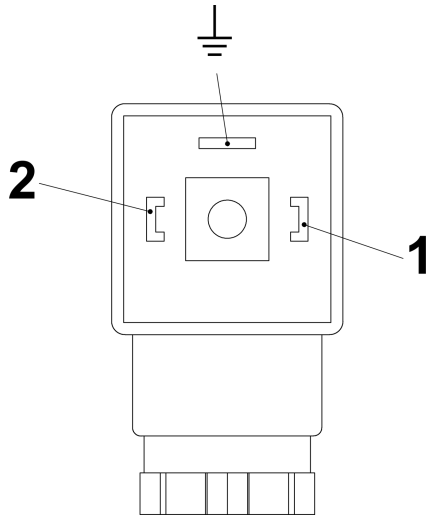
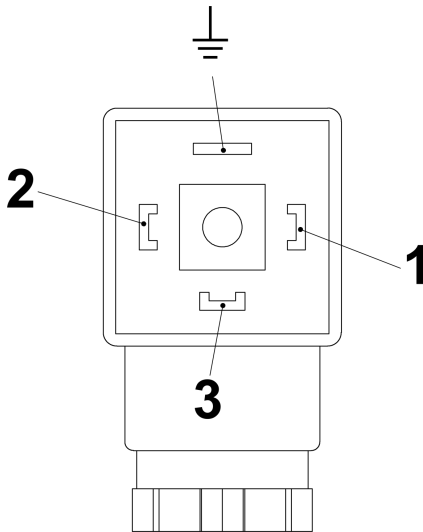

Fig. 27: Pin assignment, plug socket, normally-open contact (SG-30 with connector in compliance with EN175301-803)
Fig. 28: Pin assignment, plug socket, change-over contact (SG-30 with connector in compliance with EN175301-803)
6. ➔ Make the connections as shown in the connecting diagram (Fig. 27 and Fig. 28) an